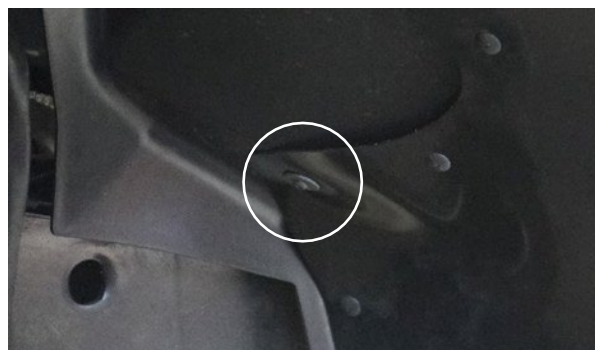

Figure 35: Driver-side shown
- C. On the driver side liner there is a hole that will help align, along with the circular cutouts. Insert a button head bolt through the hole (fig. 35). It will thread into the nutsert previously installed.